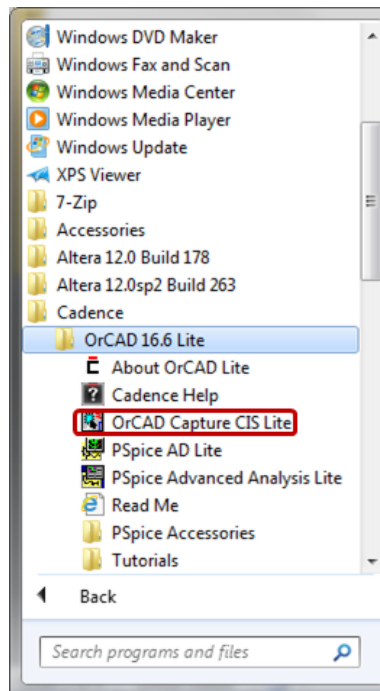

Figure 2: Select OrCAD Capture CIS Lite
4. The folder expands and gives you many options. Click on **OrCAD Capture CIS Lite**. See figure 2.